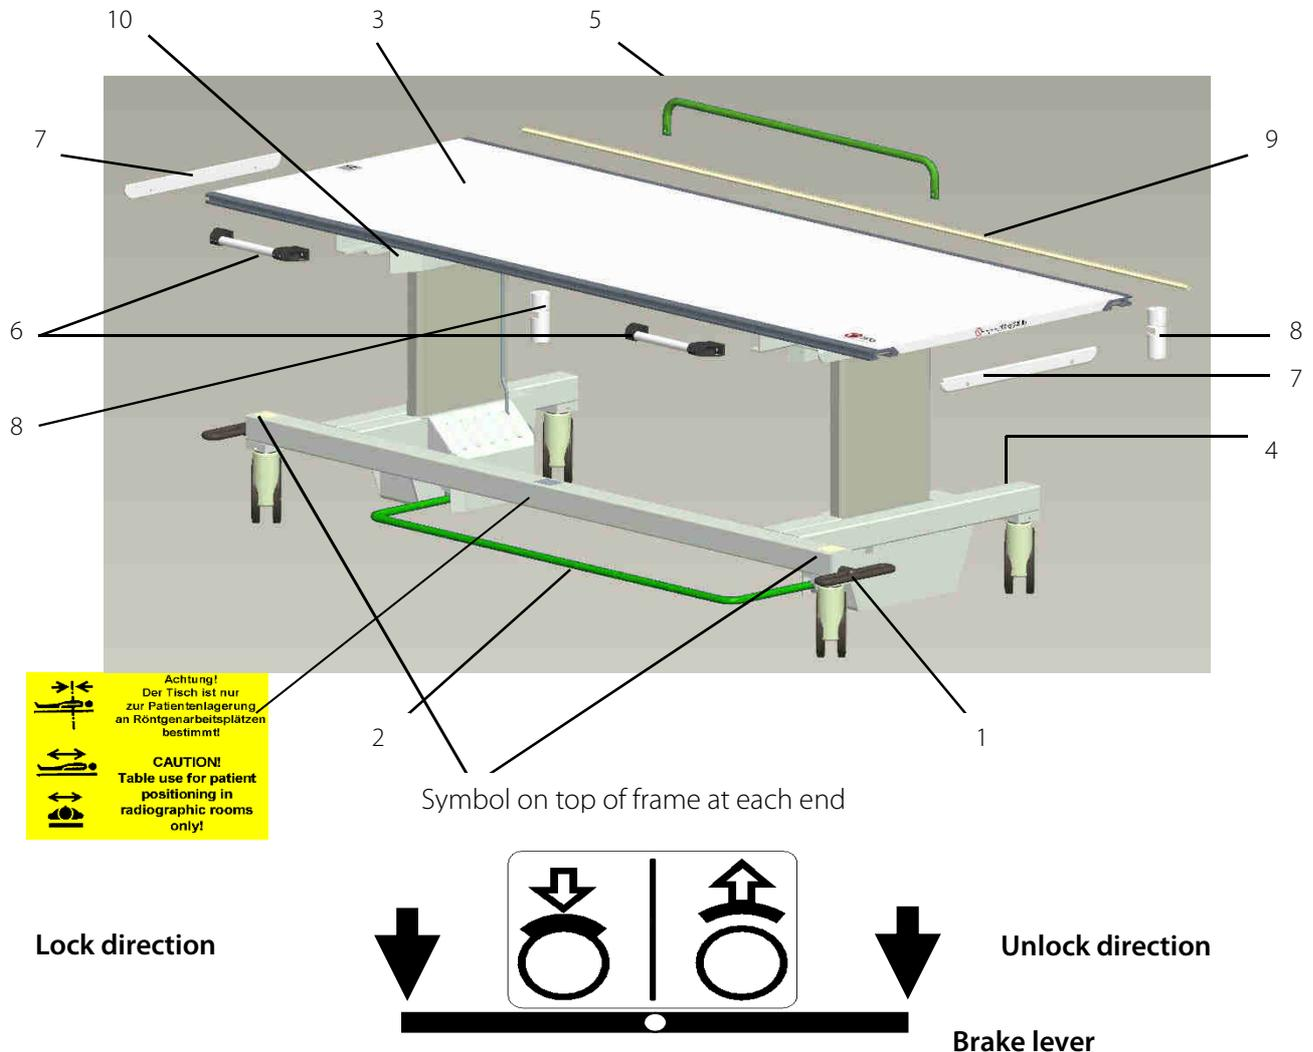

Figure 2-1
For nameplate location refer to Figure 2-1/item 4.
In order to fix the patient table in all directions, it is fitted with 2 brake wheels at the front, which have to be fixed with a fastener (Figure 2-1/1) on the left or right side before a patient gets on or off the tabletop.
Depress the brake foot-pedal bar (Figure 2-1/2) for manually movement of the tabletop.
As options a long handle at rear side of the table top (Fig. 2-1/5) and short hand grips (Fig. 2-1/6) at front side of the table top are available. The hand grips and handle can be removed with tools only. The long handle can be used for patient to easier getting ON and OFF the table top. The short hand grips allow more convenient movement of table and table top.
The deflectors (Fig. 2-1/8) at the transverse carriage avoid contact of the u-rail of transverse carriage with detector housing and consequently facilitate the positioning of the table.
The side edge guards (Fig. 2-1/7) avoid direct contact of detector housing with the z-angle.
The protection profile (Fig. 2-1/9) avoids a direct contact of rear accessory rail of the table with the stand or detector support.
The protection film (Fig. 2-1/10) on internal covers increases the slippage at contact with detector housing.
Before patients get ON or OFF the table, the PROGNOST XP brake wheels must be fixed in all directions with brake lever (Figure 2-1/1)